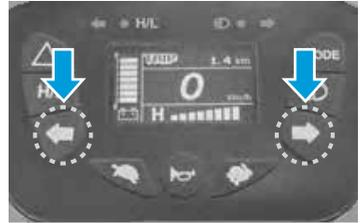

Figure 6
- Press left side to turn on left turning signal. (Figure 6)
- Press right side to turn on right turning signal. (Figure 6)